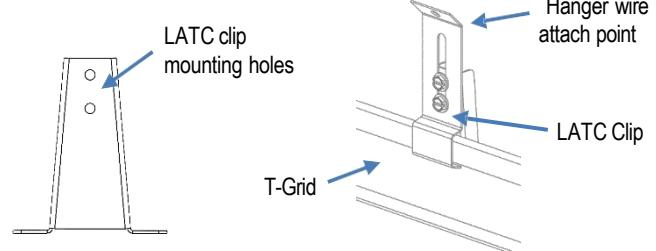

FIG. 13: ATTACHING LATC CLIPS TO T-GRID
- Once fixture is in T-Grid, attach LATC clips to LATC Adapter using screws provided. (Use LATC clips at all 4 locations). See Figure 13.